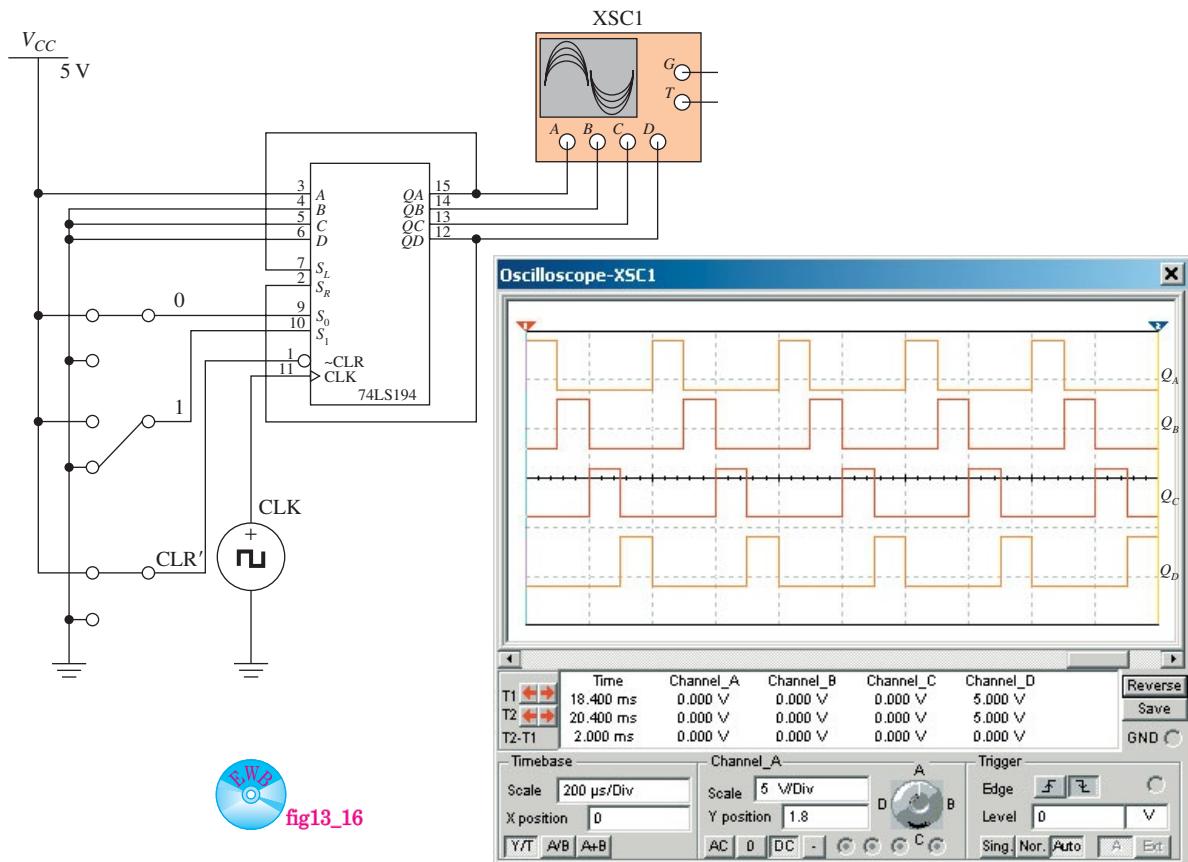

Figure 13–16 Using MultiSIM® to illustrate the operations of the 74LS194 shift register.
- Load the file *fig13–16* from the textbook companion website. Turn the power switch ON and place all switches HIGH. Because S_0 – S_1 are 1–1 you are performing a parallel load which is connected to 1–0–0–0. (Notice on the oscilloscope that the Q_A waveform is HIGH and the others are LOW.) Now make S_1 LOW by pressing 1 on the keyboard to move the S_1 switch down. The data are now shifting right and the waveforms should look like those in Figure 13–16.
Another valuable feature available on some shift registers is a **three-state output**. The term *three-state* (or *tristate*) is derived from the fact that the output can have one of three levels: HIGH, LOW, or float. The symbol and function table for a three-state output buffer are shown in Figure 13–17.